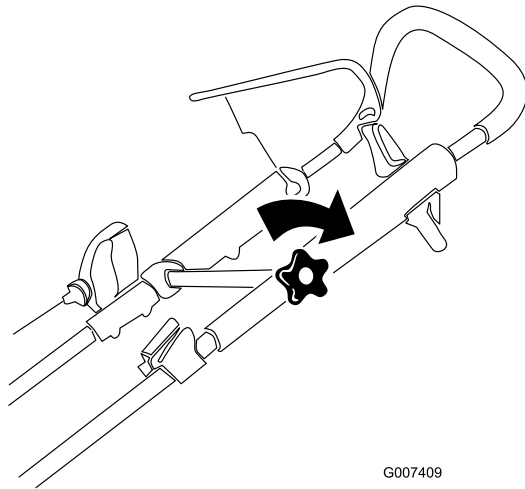

Figure 14
3. Tighten the upper handle knob firmly (Figure 14).